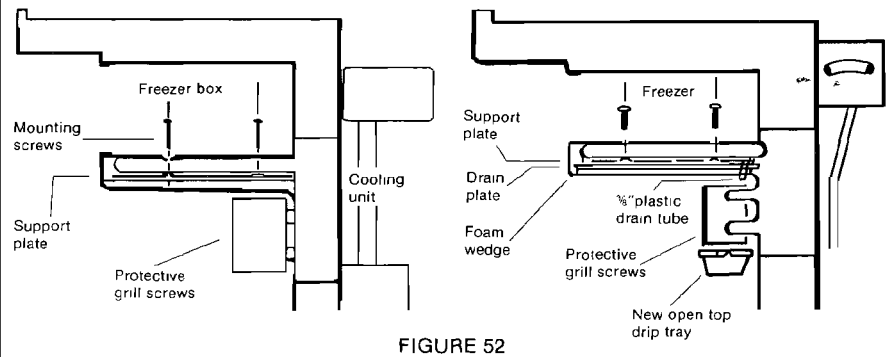

FIGURE 52
1. With the refrigerator in the upright position, remove the mounting screw in freezer box as shown in Fig. 52.
2. Remove the protective grill from refrigerator cooling coil (Fig. 52).